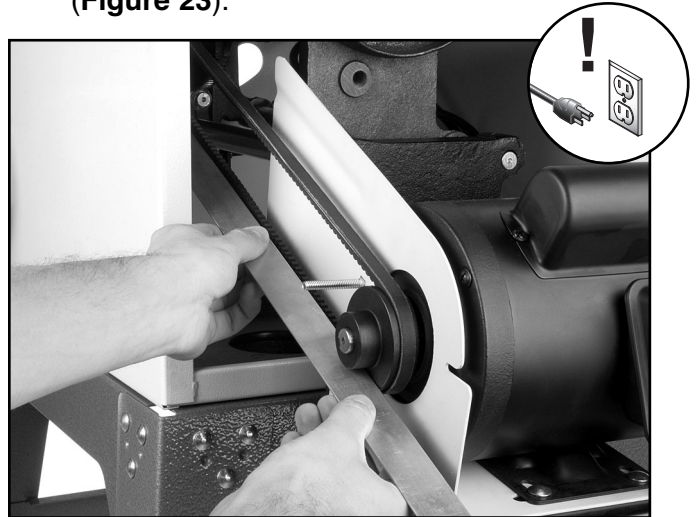

Figure 23. V-belt alignment.
10. Place a straightedge across the arbor pulley and the motor pulley. The straightedge should align across the face of both pulleys (**Figure 23**).